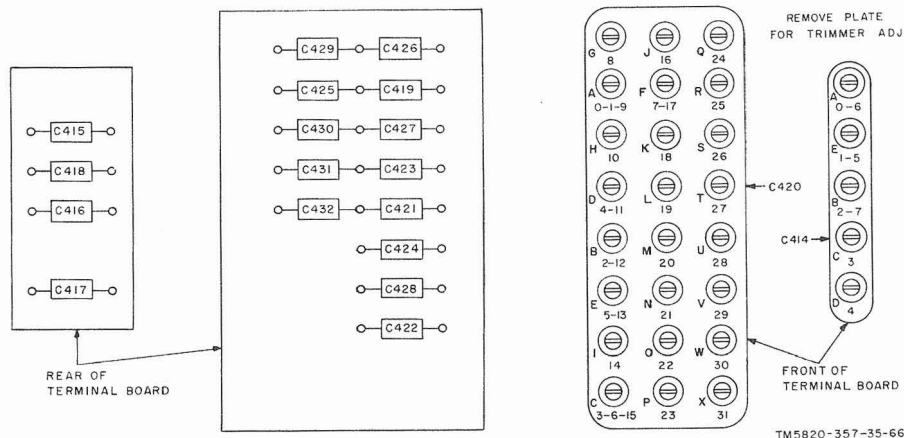

Figure 46. Location of crystal-oscillator tuning capacitors.
mers (large group of trimmers on rear panel (fig. 46)), using the chart below. Set the MEGACYCLE CHANGE control for a megacycle reading on the frequency indicator shown in the first column, and adjust the trimmer designated in the second column for the meter indication shown in the last column. Where a trimmer is used in the crystal-oscillator circuit at more than one frequency setting of the MEGACYCLE CHANGE control, it is listed only for the first setting and is adjusted for maximum only at this setting. For subsequent frequency setting of the MEGACYCLE CHANGE control involving a previously adjusted trimmer, check only for an indication on the TS-505(\*)/U. If no indication is obtained, check the crystal-oscillator bandswitch.
e. Adjust the first crystal-oscillator trimmers (group of five trimmers on the rear panel (fig. 46)), using the chart below in the manner described in paragraph 77.